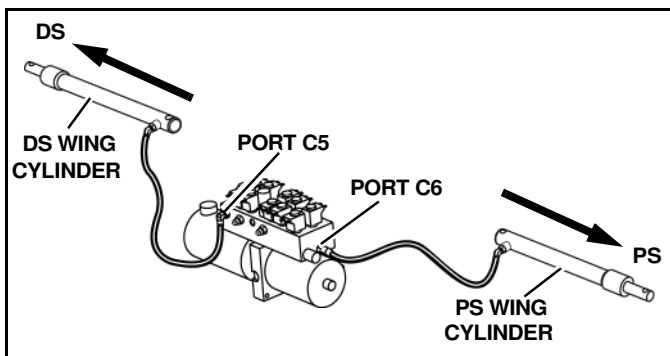

Figure 1-14
5. **MODEL 26R ONLY:** Connect the hydraulic hose from port C6 on the power unit to the passenger side wing cylinder. Connect the hose from port C5 on the power unit to the Driver side wing cylinder. (See Figure 1-14).